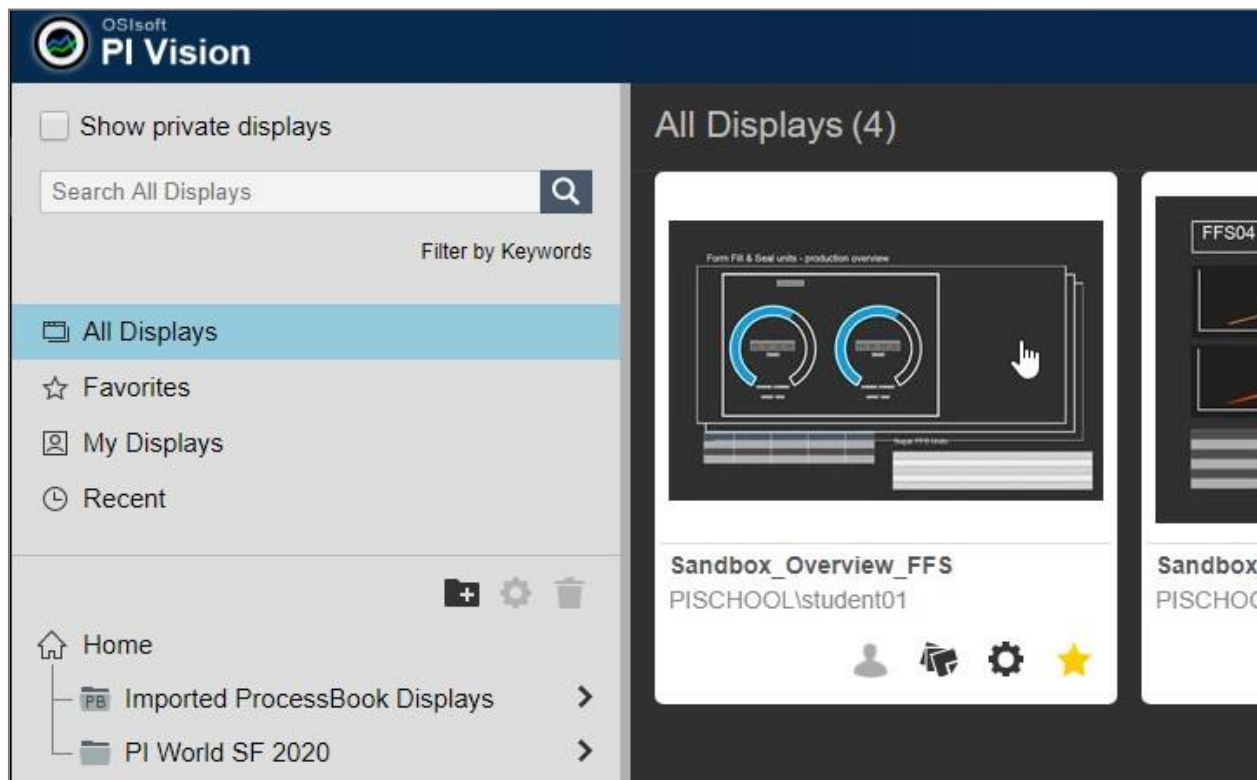

Figure 2. PI Vision main page
Step 2. Once on the main page, open the display **Sandbox_Overview_FFS** (Figure 2).